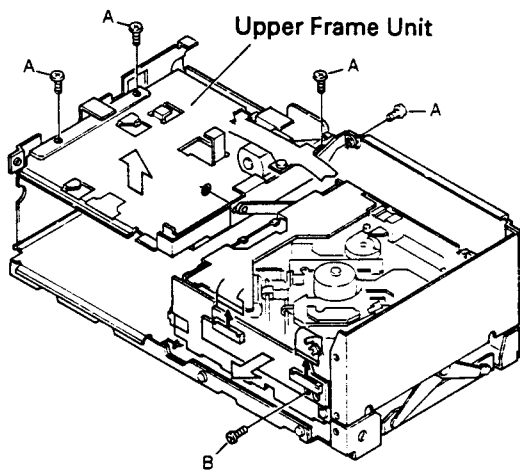

Fig. 6
5. Remove the washer. (Fig. 6)
6. Remove four screws A and detach the upper frame unit. (Fig. 6)
7. Remove screw B. (Fig. 6)
8. Disconnect the connector in two places and detach the P.C. Board. (Fig. 6)
8. Install the two connectors of the P.C. Board on the P.C. Board. (Fig. 6)
9. Install screw B. (Fig. 6)
11. Install the upper frame unit with four screws A. (Fig. 6)
12. Put the washer in place. (Fig 6)